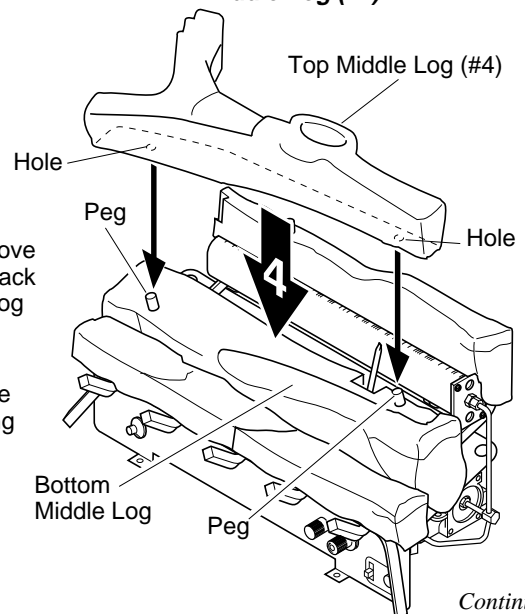

Figure 19 - Installing Top Log (#4)
4. Place the top middle log (#4) on the bottom middle log (#2). Make sure the pegs of the bottom middle log fit securely in the holes of the top middle log (see Figure 19).